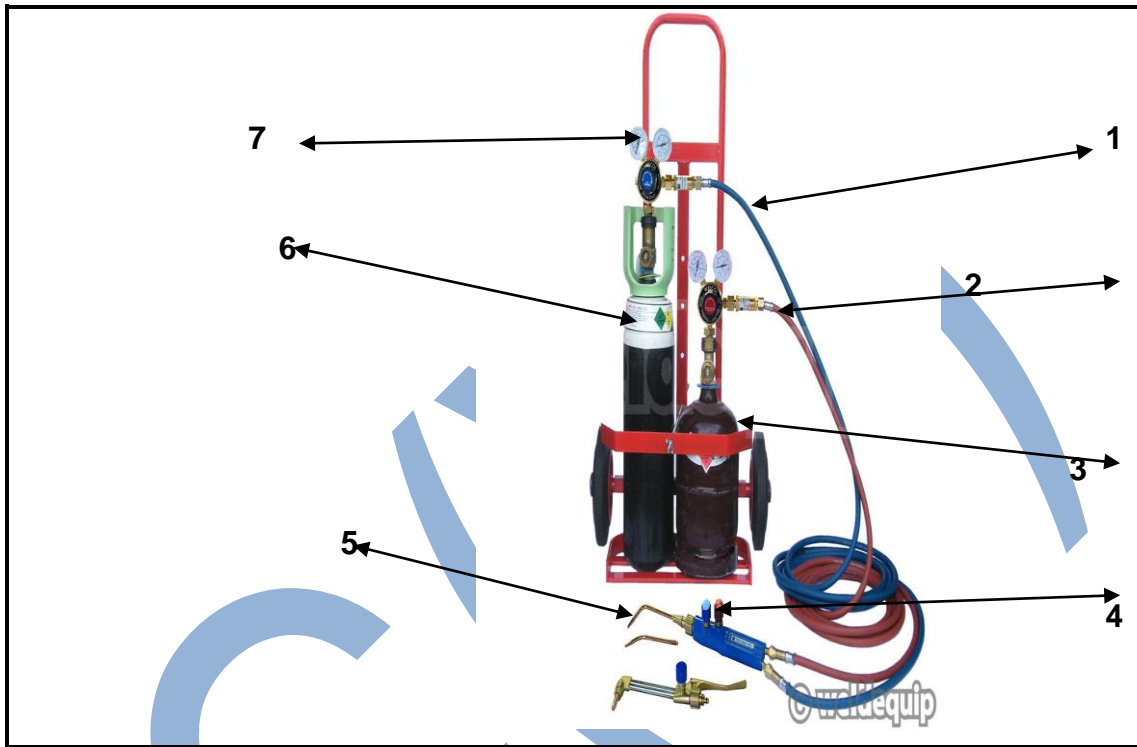

FIGURE 2
5.6 Identify the system in FIGURE 2 below and label all the components (1–7). Write only the name next to the numbers (1–7) in the ANSWER BOOK. (7)